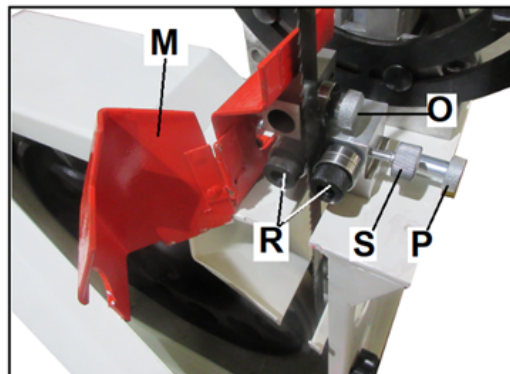

Figure 5-12: lower blade guides
Refer to Figures 5-12 and 5-13.
2. Open lower door and swing lower guard (M, Figure 5-12) out of the way.